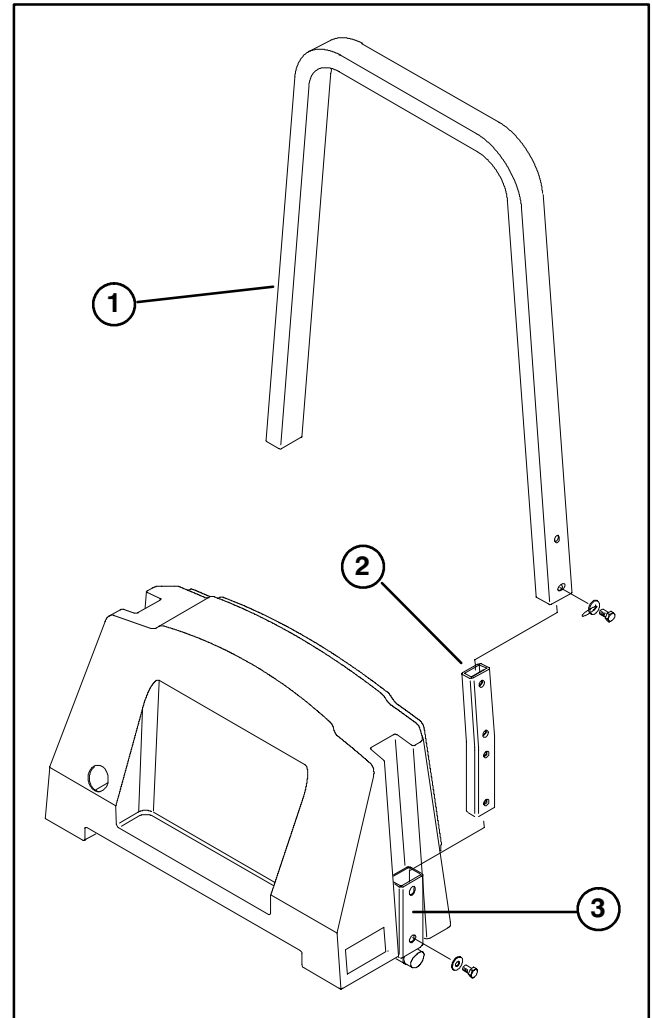

Figure 2
INSTALL ROLL BAR (Fig. 2)
1. Loosely mount a bar assembly to each end of roll bar with (2) bolts and flatwashers.
2. Lower roll bar into frame holder, aligning mounting holes as shown in Fig. 2.
3. Loosely secure bar assembly to frame holder with (4) bolts and flat washers (Fig. 2).